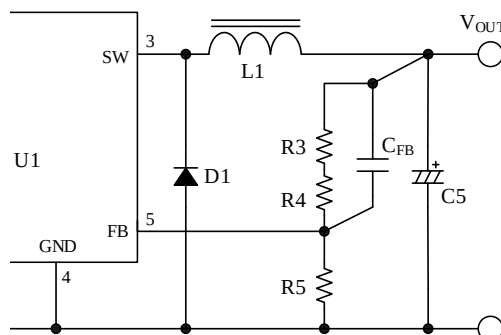

Figure 12-8. Using Electrolytic Capacitor
*When ESR is about 150 m Ω , C_{FB} connects to between FB pin and V_{OUT} as shown in Figure 12-8. The value of C_{FB} is about 220pF to 2200pF.